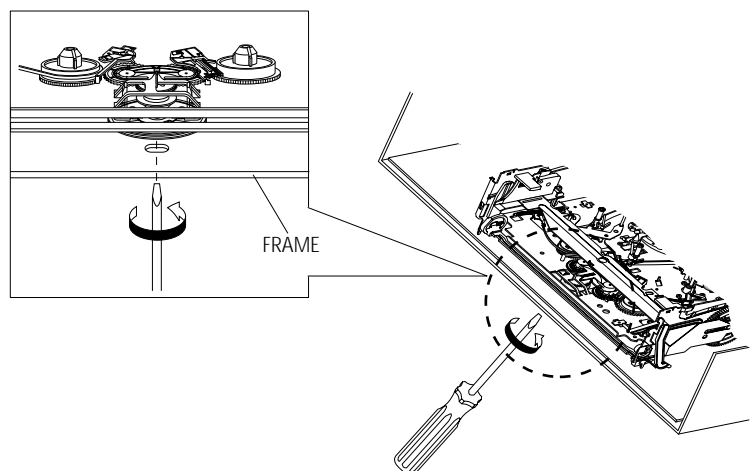

Fig. 3
- 2) When Slider S, T are approached in the position of unloading, rotate holder Clutch counterclockwise after inserting screw driver in the hole of frame's bottom in order to wind the unwiunded tape. (Refer to Fig. 3)